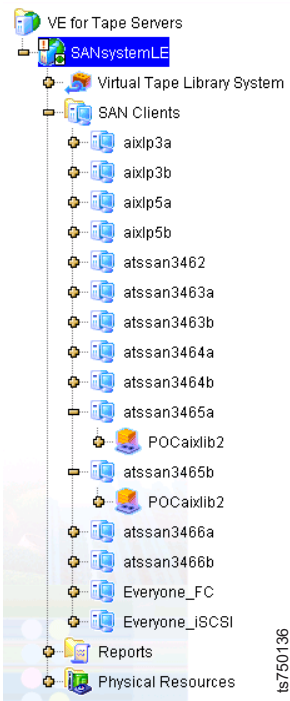

Figure 82. Virtual tape library assignment to SAN clients for Path Failover
5. ___ In the VE console, assign the desired virtual tape library to both new SAN clients using the procedure in “Assigning virtual tape devices to fibre channel clients” on page 140. Use the target WWPNs recorded in step 2. For example, Figure 82 shows virtual tape library *POCaixlib2* assigned to SAN clients *atssan3465a* and *atssan3465b*.